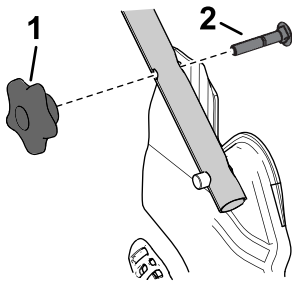

Figure 6
4. Insert the carriage bolt (with the bolt head toward the inside) through the upper or lower square hole in handle bracket and the upper hole in the handle end (Figure 6).